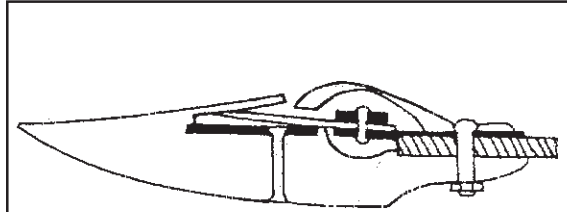

Figure 5
All cutting is done by the knife passing over ledger plate in the guard. It is vital that these sections are parallel with the plates and in contact with them, (See Figure 5 & 6).
3. Sight down the bar and look for a knife section in close contact with a guard ledger. If the section to the right and left are both 1/8" of the ledger do not bend the two sides up until they contact the knife. This is wrong (see Figure 5), the high guard should be knocked down until all three contact. The higher up a guard gets bent, the more the knife section will tend to contact only the tip (See Figure 5 & 6).
7. Finally, align the industrial outer shoe in the same way as the guards. (See Figure 5 & 6 and step 1 through 6)